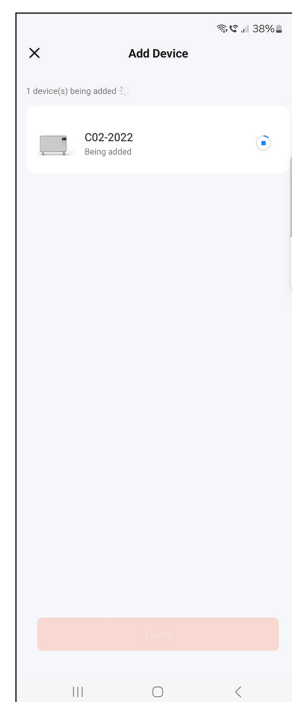

fig. 9
- The heater will now be added to your app, this may take a few minutes (see fig. 9)